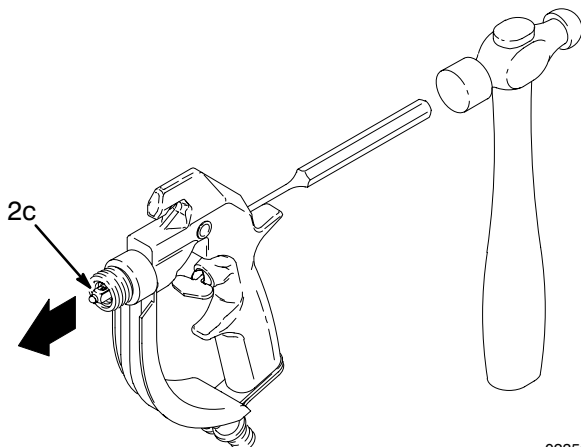

Fig. 6
4. Insert a punch into the rear of the gun and tap it to push the needle (2c\*) out the front of the gun. See Fig. 6.